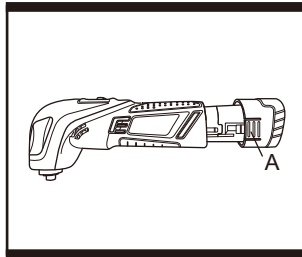

Fig. 3
2. TO REMOVE OR INSTALL BATTERY PACK (Fig. 3)